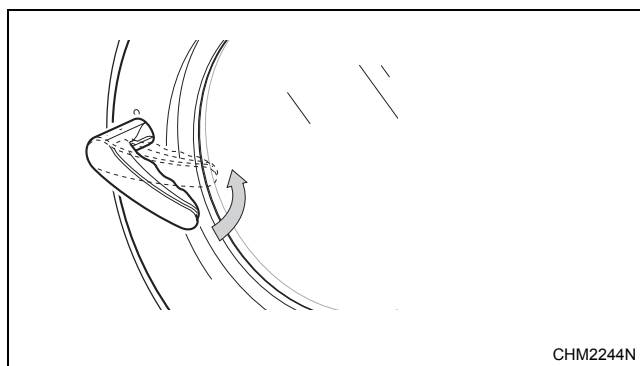

Figure 56
4. Close door and turn handle counter clockwise. Refer to *Figure 56*.